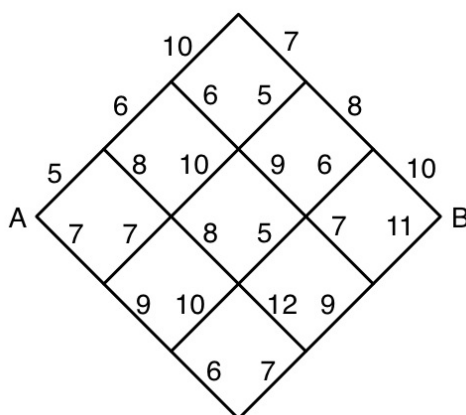

Figure 1: Shortest path problem on a grid.
Consider the shortest path problem in Figure 1 where it is only possible to travel to the right and down-right from each node. The numbers represent the travel times for each segment. The control input is the decision to go “up-right” or “down-right” at each node.
- (a) Use Dynamic Programming (DP) to find the shortest path from A to B .
- (b) Consider a generalized version of the shortest path problem in Figure 1 where the grid has n segments on each side. Find the number of computations required by an exhaustive search algorithm (i.e., the number of routes that such an algorithm would need to evaluate) and the number of computations required by a DP algorithm (i.e., the number of DP evaluations). For example, for $n = 3$ as in Figure 1, an exhaustive search algorithm requires 20 computations, while the DP algorithm requires only 15.